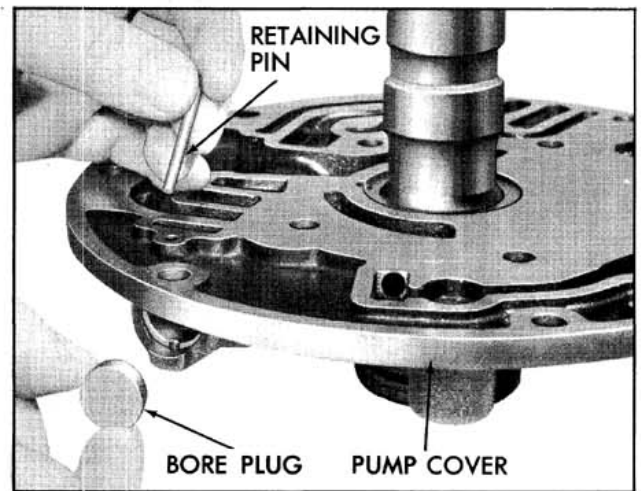

Fig. 6-117 Installing Bore Plug and Ring
6. Install the pressure regulator valve bore plug and retaining pin into opposite end of bore. (Fig. 6-117)